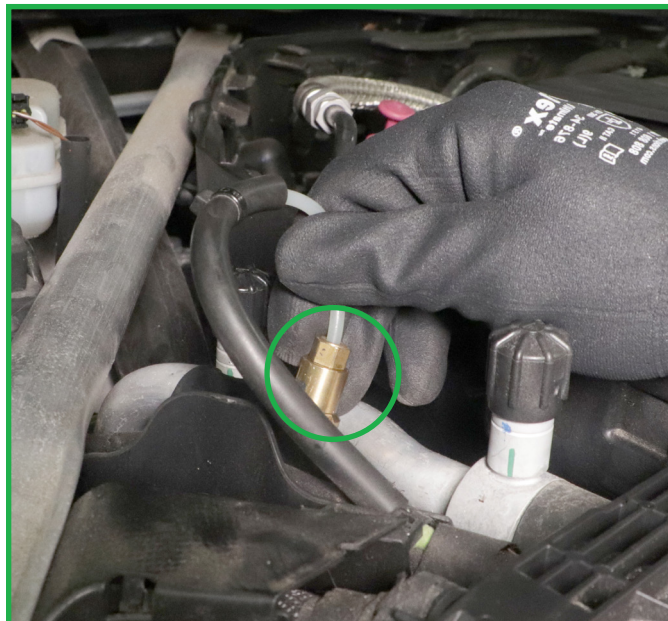

FIGURE 2
2. Deflate the vehicle air suspension system per manufacturer's specifications. Disconnect the air line from the strut. (Figure 2)